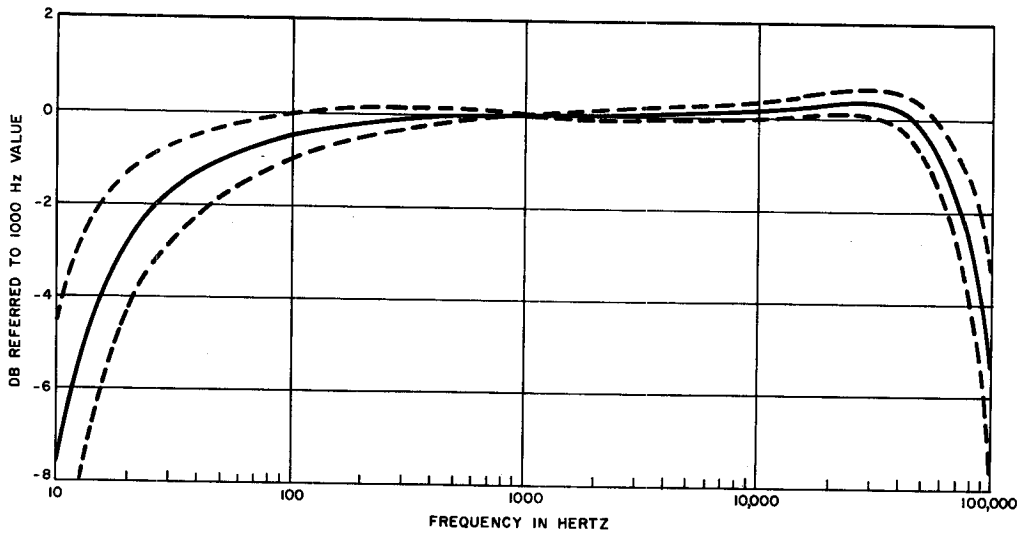
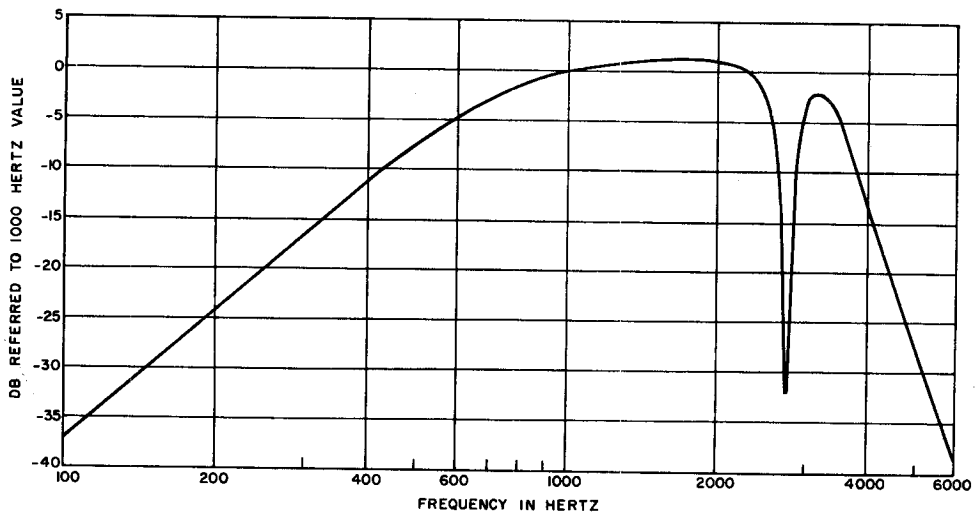

Fig. 3 - Frequency Characteristic With Flat Weighting
Fig. 4 - Typical Frequency Characteristic With C-Notched Weighting
Bandwidth	20 Hz to 80 kHz, normally modified by C-notched filter (see 2.12 and Fig. 4)
2.12 Fig. 3 shows plots of the frequency characteristic for the 6H and 6HR sets with the weighting network oriented for *flat* weighting. The solid curve shows the typical response for these sets, and the dashed curves show the limits that result from component tolerances. The frequency characteristic is normally modified by means of the *C-notched* filter. Fig. 4 shows a typical plot of the resulting frequency characteristic with *C-notched* weighting. The characteristic is similar to that of the *C-message* filter but includes a band rejection filter centered about 2750 Hz to permit measurements on companded circuits. In the band of 2736 to 2764 Hz, rejection greater than 30 dB is provided.